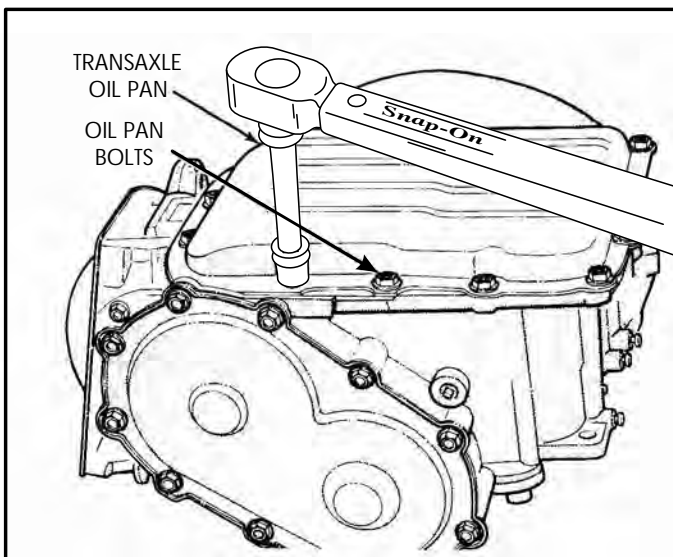

Figure 244
10. Install bottom oil pan on transaxle case and 14 oil pan bolts, as shown in Figure 244.
11. Torque the 14 pan bolts to 19 N·m (165 in.lbs), as shown in Figure 244.